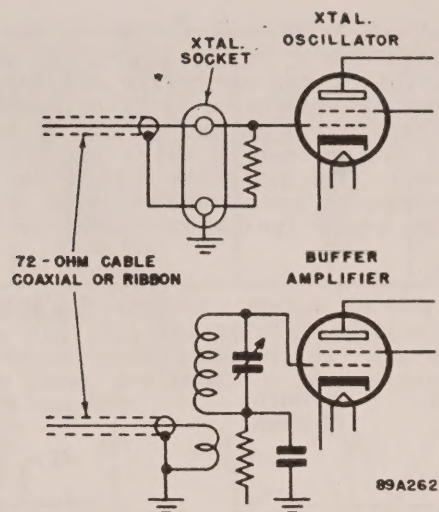

Figure 3. Methods of Coupling Exciter Unit to Transmitter
2. OUTPUT TERMINAL STRIP - The unit has been designed to operate with a 72-ohm cable, which may be coaxial or ribbon type line. Refer to Fig. 3. for recommended connections at the transmitter end of the line. When using an unterminated line as